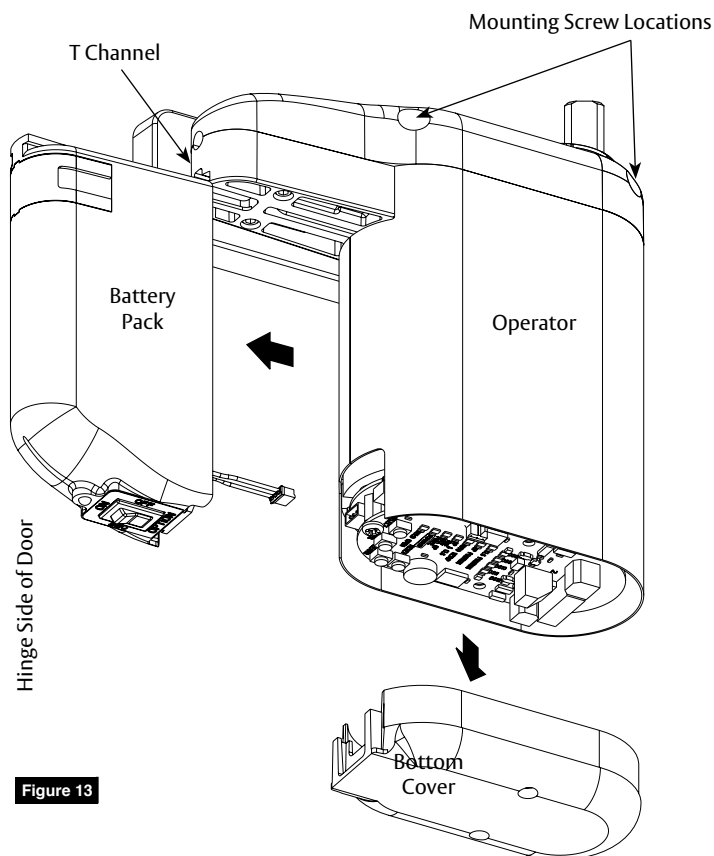

Figure 13
3. Remove bottom cover of operator. (Figure 13)
4. Remove battery pack from operator by sliding it off T channel. (Figure 13)
5. Insert two (2) ¼-20 x 38mm socket head cap-screws into operator. (Figure 13)